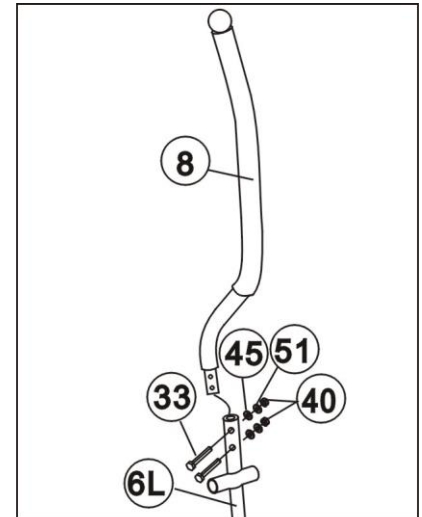

Figure 8
Insert the Left handlebar (8) to the left Handlebar support (6L) with four M8x40 Bolts (33), Arc washers (45),  $\phi$ 8 Spring washers (51), and M8 Cap nuts (40). Do the above same steps to assemble the right handlebar (11) to the right Handlebar support (6R). (Refer figure 8)